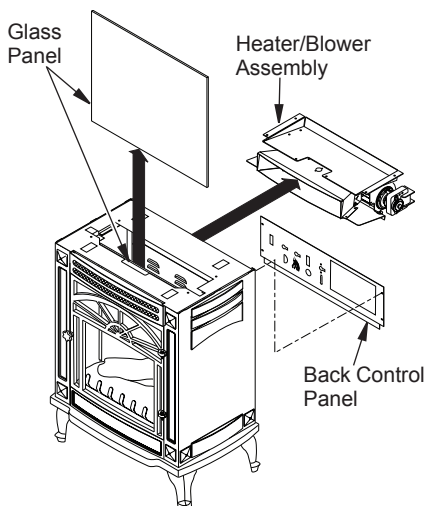

Figure 10 - Removing Glass Panel
2. Remove four screws securing back control panel (see Figure 10). **DO NOT STRESS WIRES.**
3. Remove four screws securing heater/blower assembly to stove assembly (see Figure 10). Assembly must be held securely while removing screws.
4. Slide heater assembly out back of stove and set aside (see Figure 10, page 7).